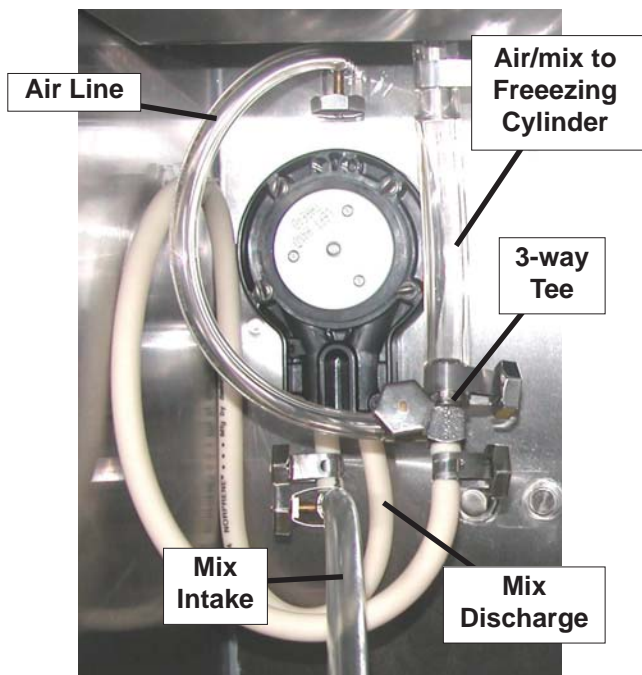

Figure 3-9 Mix Pump Hose Routing
- A. Mix Operation: The peristaltic mix pump contains one continuous mix pump hose. When looking at the face of the peristaltic mix pump, the left side of the hose is the mix intake or pickup. The right side of the hose is the mix discharge. Mix is drawn up the pickup side of the hose and transferred through the discharge side to the machine (Fig. 3-9).